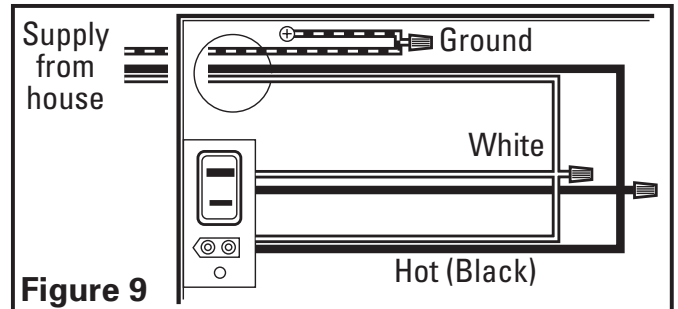

Figure 9
- 2a. From where you have access to inside the fan's junction box, connect the one white wire from the house to both the white wire from the fan's light receptacle and the white wire from the fan's exhaust receptacle. Connect the black wire from the wall switch to both the black wire from the fan's light receptacle and the black wire from the fan's exhaust receptacle. Connect the ground wire from the house to the green wire from the fan's grounding screw (Figure 9). Use approved methods for all connections.